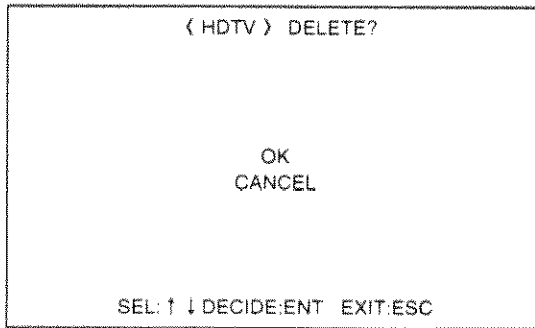

Fig. 2 DATA DELETE menu
- (1) Enter the SIGNAL SET menu (page 79).
- (2) Move the cursor to the memory to be deleted and press ENTER key.
- (3) MEM SETTING menu (page 79) is displayed.
- (4) Select delete and press ENTER.
- (5) A screen similar to below Fig. 2 is displayed. When OK is selected, the memory is deleted. Select cancel to abort the memory delete operation.